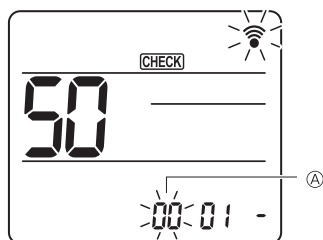

Fig. 2
Press the **[DOWN]** button to set unit number ①. (Fig. 2)